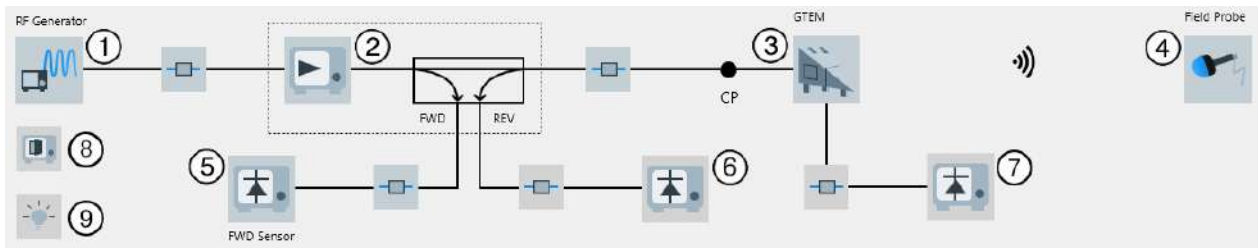

Figure 4-156: EMS hardware setup diagram for a TEM Waveguide in Calibration View
- The "Calibration View" (see Figure 4-156)